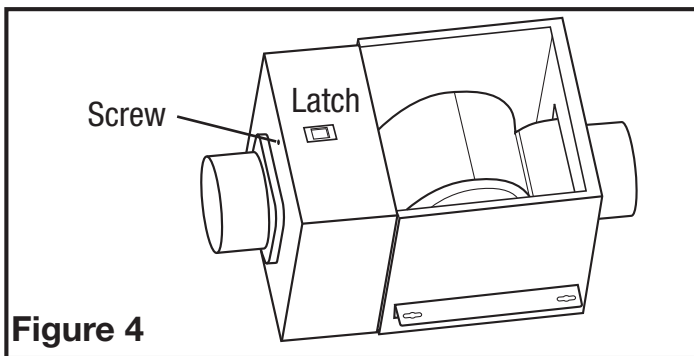

Figure 4
1. Remove the screw holding the filter access panel in place. Slide the latch to remove the lid (Figure 4).